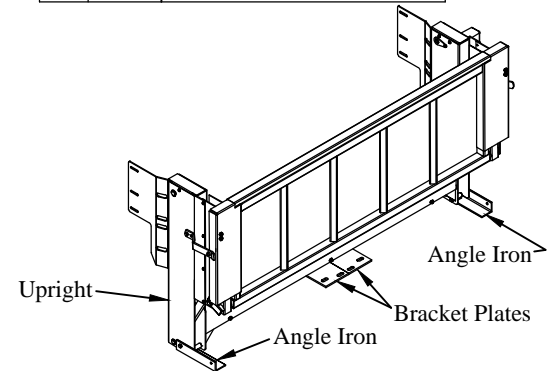

Figure 2: Complete liftgate.
4. Unbolt the two (2) angle irons attached to the liftgate uprights (Figure 2).
6. Remove the two (2) bracket plates attached to the liftgate (Figure 2).